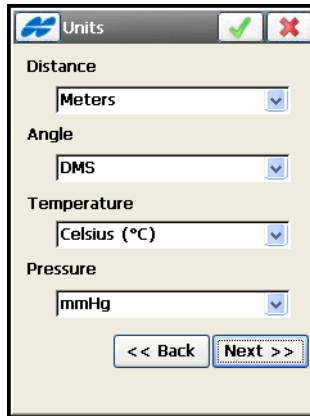

Figure 2-7. Units
- **Next** – opens the *Units* screen (Figure 2-7 on page 2-7).
On the *Units* screen, the default units that are used in the job display. You can set the following units (Figure 2-7).